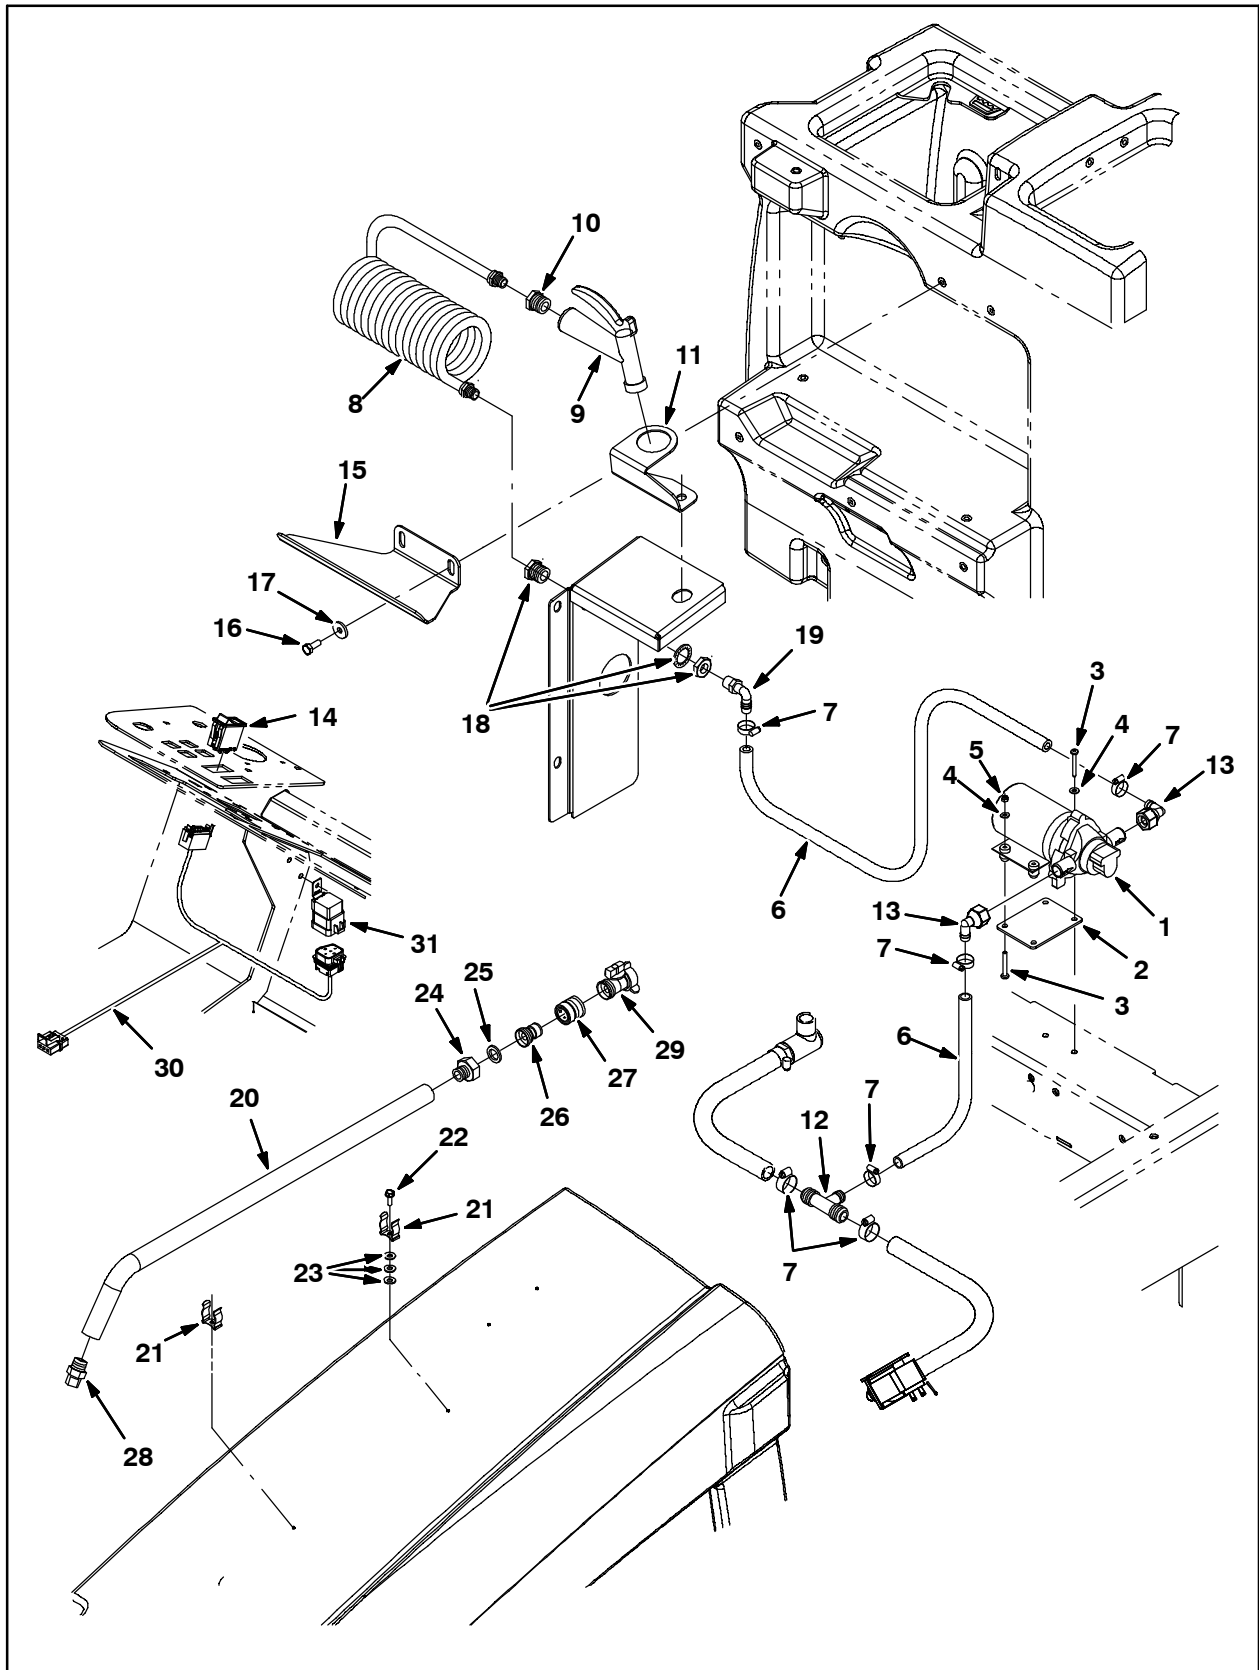

FIG. 11
37. Insert the wand (20) into the clips (21). Refer to Fig. 11.